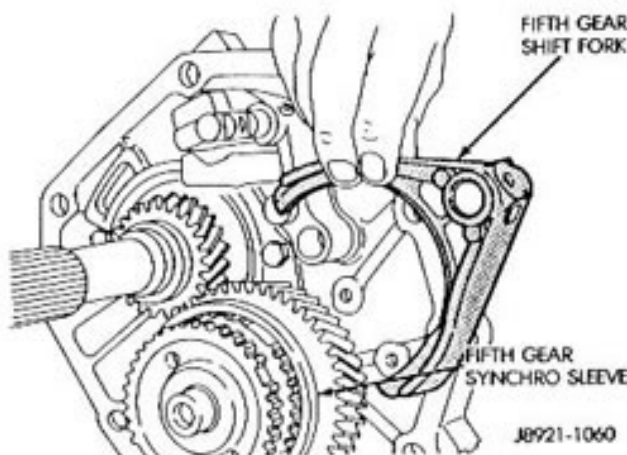

Fig. 30 Removing Fifth Gear Shift Fork
(9) Move the fifth gear shift rail forward until it clears the shift fork.
(10) Remove the fifth gear shift fork from the synchro sleeve (Fig. 30).
(11) Remove the reverse shift rail and the reverse